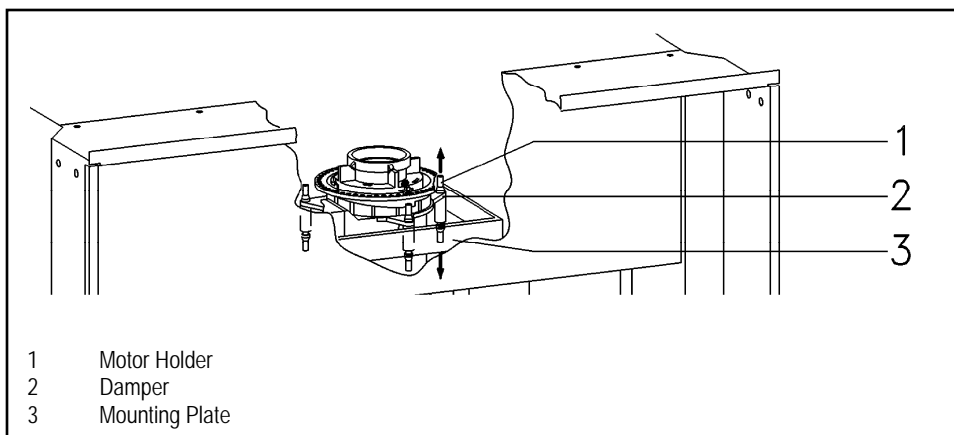

Figure 5-48: Grinder Coupling
Mark the polarity of the plug (Figure 5-48, Item 1) connected to the electronic unit.
11. Lift the grinder upwards from the dampers (Figure 5-48, Item 2).